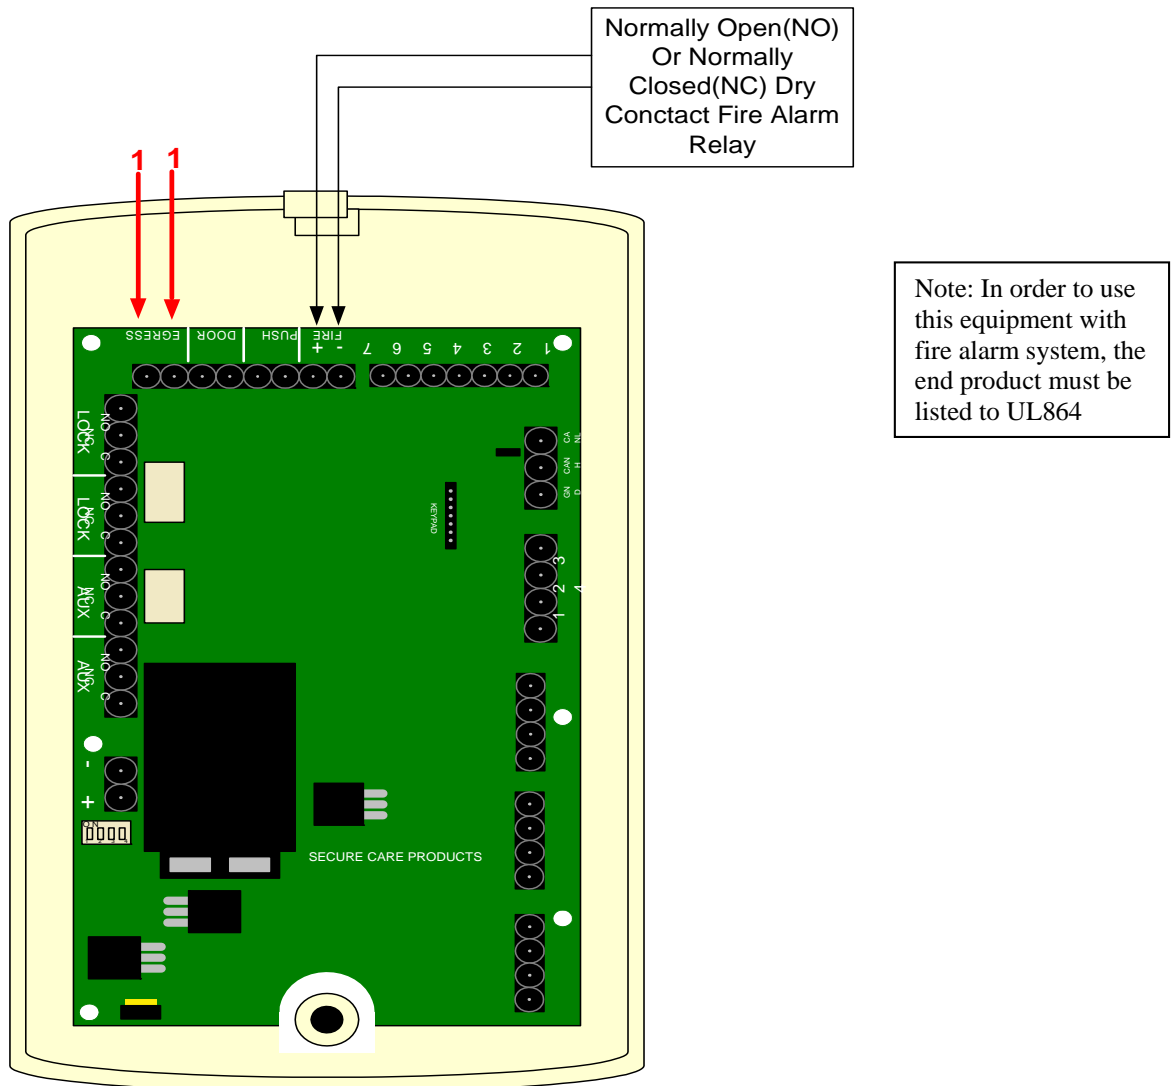

Figure 9-10 Delayed Egress and Fire Alarm Connections
The U-DE Exit Panel can also be interfaced to two Magnetic locks. Make connections as shown in Fig. 9-10. The two locks should be wired in series not in parallel.
Each of our panels has a delayed egress connection and a fire alarm connection per Life Safety Code 101 and NFPA code 101. The fire alarm panel connection is designed to disengage the magnetic lock in the event of a fire alarm. The delayed egress connection will sense when pressure is applied to the door, releasing the magnetic lock 15 seconds later. Connect the red wire from your fire alarm relay (dry contact) to the positive reference termination on the panel; connect the black wire from your fire alarm relay (dry contact) to the negative reference termination on the panel. When connecting the delayed egress (1), simply connect both leads from the lock to the panel. Polarity does not matter. Connections are shown in Fig. 9-10.